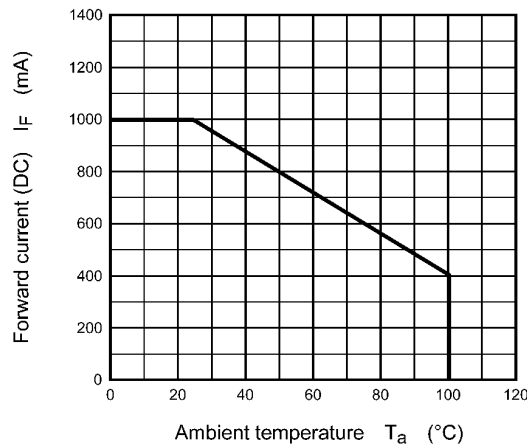

Fig. 4.1 $I_F - T_a$ (Note)
| Forward current (DC) See Fig. 4.1. | I_F | | 1000 | mA |